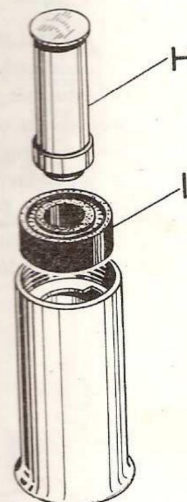

Fig. X6.
If the oil seal is to be replaced care must be taken that the feather edge of the seal is not damaged. Enter the oil seal (I) Fig. X6 into the holder, metal part first, and drive home using B.S.A. Service Tool part number 61-3007 (H) Fig. X6. Place the oil seal holder over the shaft and pass it up the shaft until it is firmly held on the tapered section. Do not use excessive force or the oil seal may be damaged. Place the circlip over the shaft followed by the shims and top bearing and then the bottom bearing. Place the steel washer over the thread of the gland nut, screw up the gland nut and holding the shaft firmly in a soft jawed vice as described in dismantling procedure firmly tighten the gland nut.